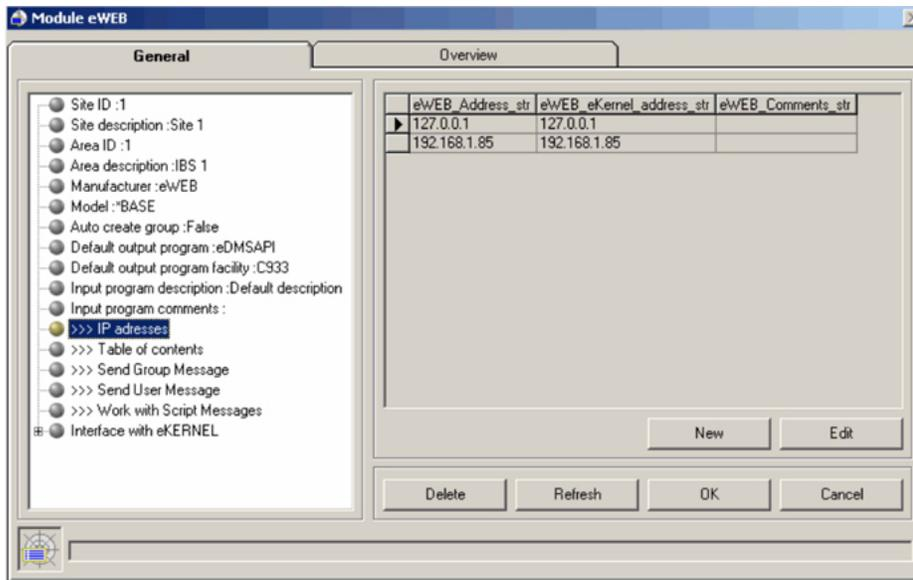

Figure 19: eWEB Properties
- Double-click the eWEB instance to open the parameters/properties. Click **IP addresses**, as shown in Figure 19: eWEB Properties on page 90. The first line in the right pane contains the loop back address (127.0.0.1) of the PC. Do not change this. The second line contains the correct IP addresses.